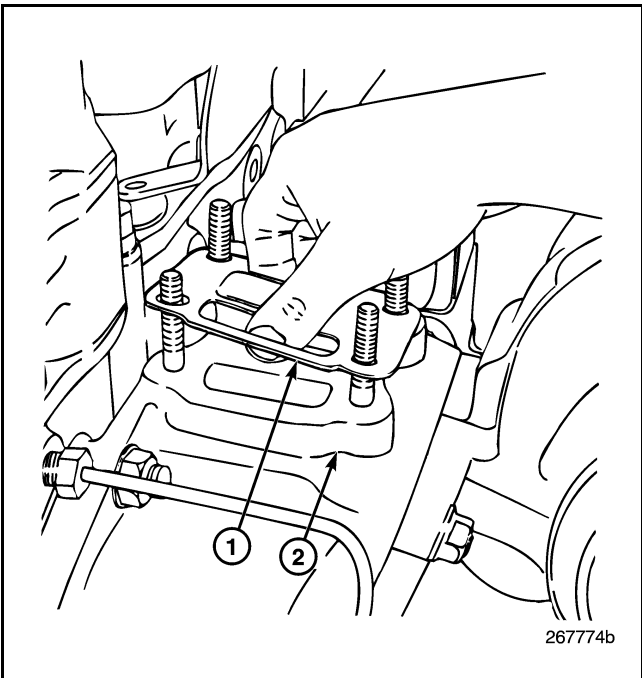

Figure 413 — Gasket Installation
2. Install a **new** gasket on the EGR valve assembly mounting surface of the exhaust manifold (Figure 413).